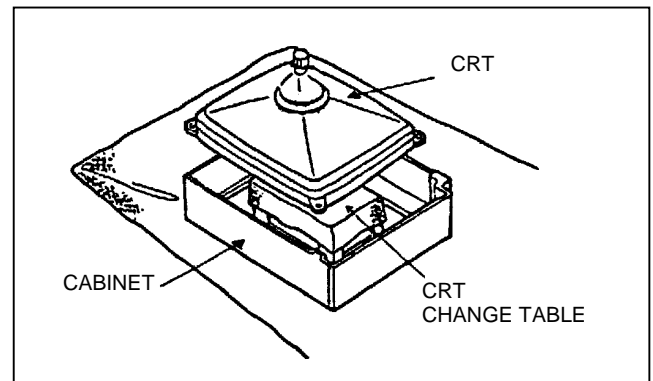

Fig. 6
- 4. After 4 screws have been removed, put the cabinet slowly on cloth (At this time, be carefully so as not to damage the front surface of the cabinet) shown in Fig.6.